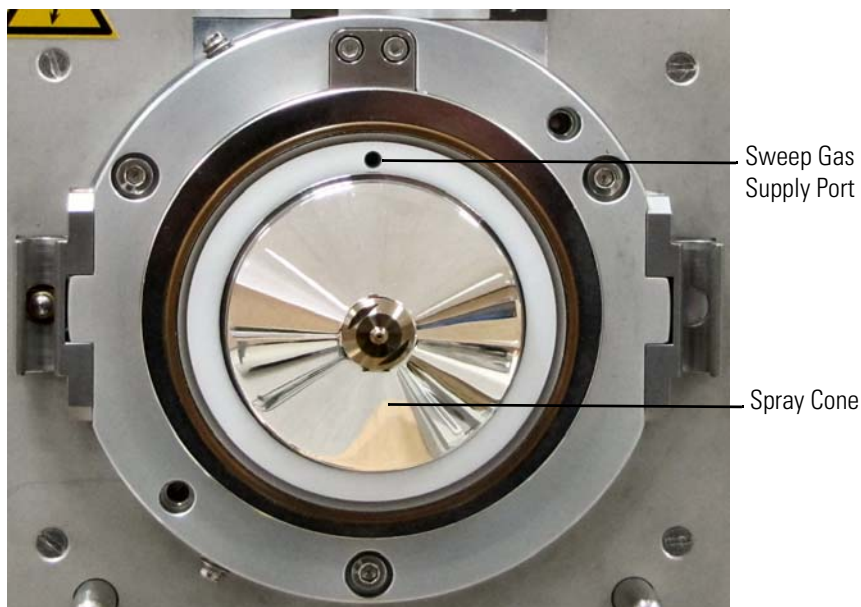
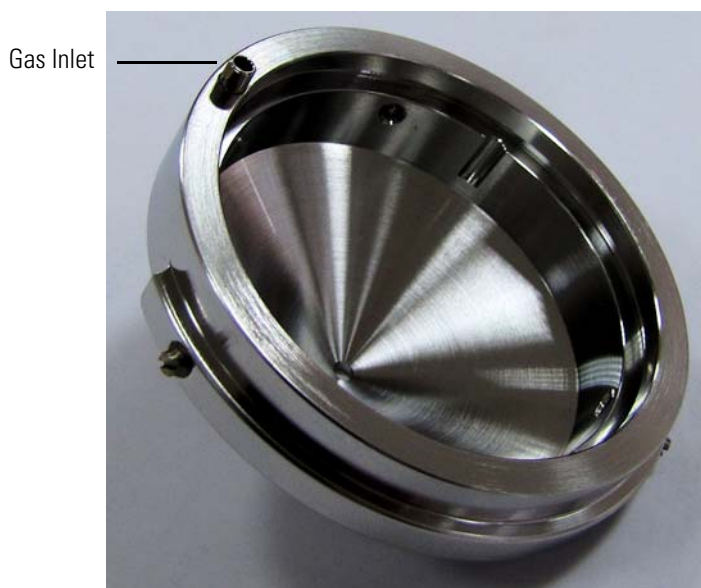

Figure 8-11. Ion source interface, showing the sweep gas supply port in the API cone seal
Figure 8-12. Ion sweep cone, showing the gas inlet
12. Align the gas inlet on the ion sweep cone with the sweep gas supply port on the ion source mount. Firmly press the ion sweep cone into ion source mount. See Figure 8-11 and Figure 8-12.
11. Align the gas inlet on the ion sweep cone with the sweep gas supply port on the ion source mount. Firmly press the ion sweep cone into ion source mount. See Figure 8-11 and Figure 8-12.